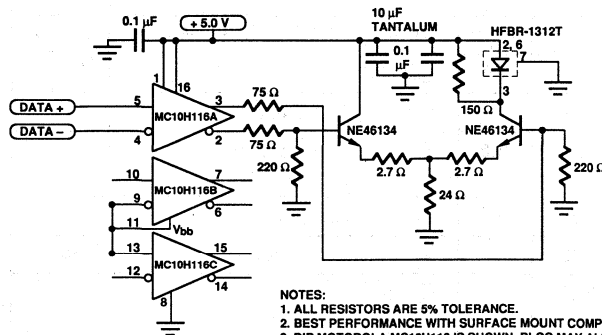

Figure 3. Recommended Transmitter Drive and Test Circuit.
7. Optical rise and fall times are measured from 10% to 90% with 62.5/125 μm fiber. LED response time with recommended test circuit (Figure 3) at 25 MHz, 50% duty cycle.